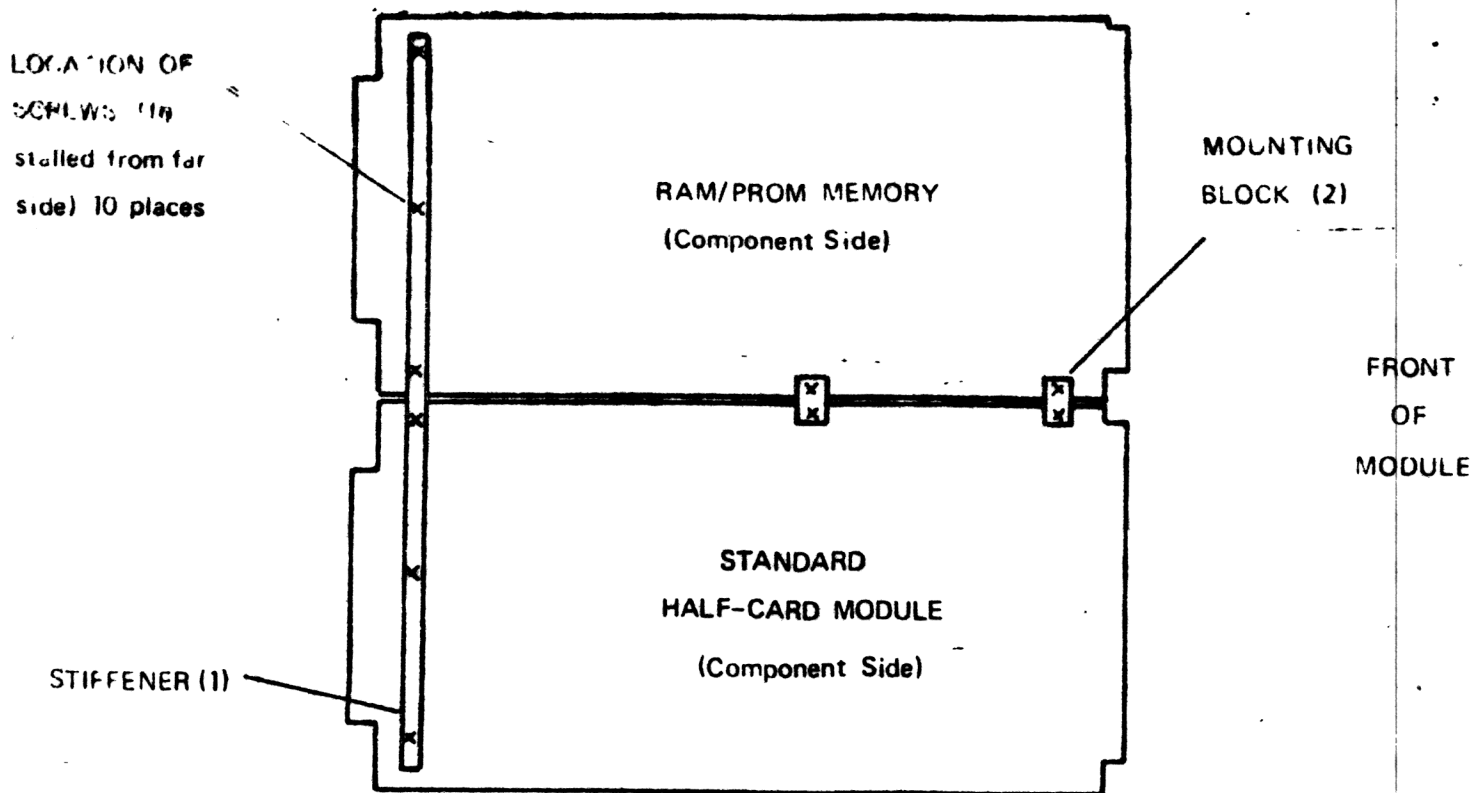

Figure 1. Joining Half-Cards
- (a) Install the two plastic mounting blocks between the two cards (figure 1) by inserting two nylon screws (supplied with standard half-card) into tapped holes in each block from the solder side of the cards. Do not tighten screws firmly at this point.